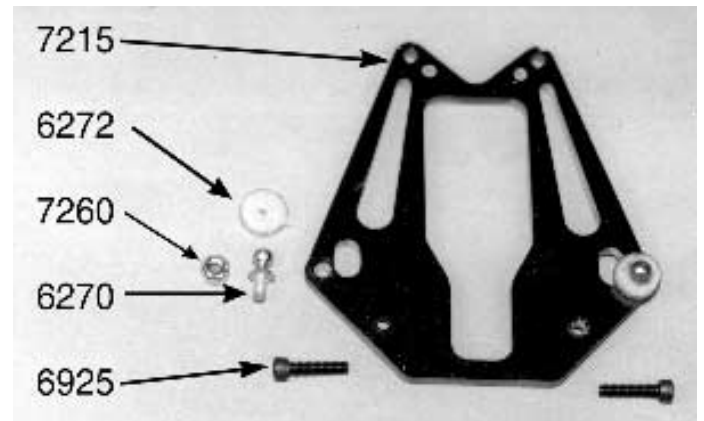

Fig. 17
□ **Figs. 17, 18 & 19** (1) From bag #6-14 remove two #6270 short steel ball ends, two #7260 4-40 small pattern thin plain nuts, and two of the #6272 foam ball end dust covers. (2) Now take the #7215 black fiberglass front shock strut and two #6925 4-40 x 1/2" SHCScrews from bag #7-1. (3) Install the #6270 short ball ends in the two holes outside of the small oval shaped holes as shown. At this time it does not matter which side of the shock strut you use. Tighten the ball ends (4) then install and tighten the two plain nuts on the ball ends. (5) Install the dust covers over the balls now. (6) Go back to your #6950 tool bag and take out the largest Allen wrench (3/32"). (7) Use the two #6925 SHCScrews and the 3/32" Allen wrench to mount the #7215 shock strut on the back side of the #7207 front bulkhead, making sure that the ball ends are on the back side facing away from the bulkhead (see fig. 15). **Note:** All of the 4-40 SHCScrews in the kit can be installed with the 3/32" Allen wrench supplied in the #6950 tool bag. But an Associated #6960 3/32" Allen driver (or an equivalent brand) will make installation of the same screws easier and quicker.